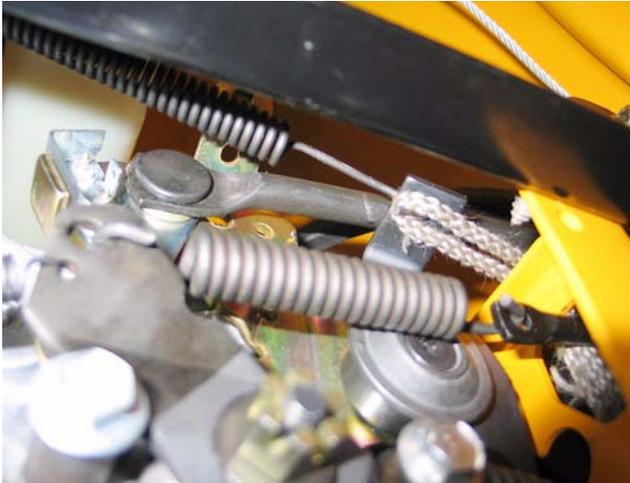

Figure 29.19
29.19. A length of starter rope is best used to disconnect the front of the spring from the control arm. pass the rope over the torque bracket, and draw downward on the rope to avoid destabilizing the tractor. See Figure 29.19.